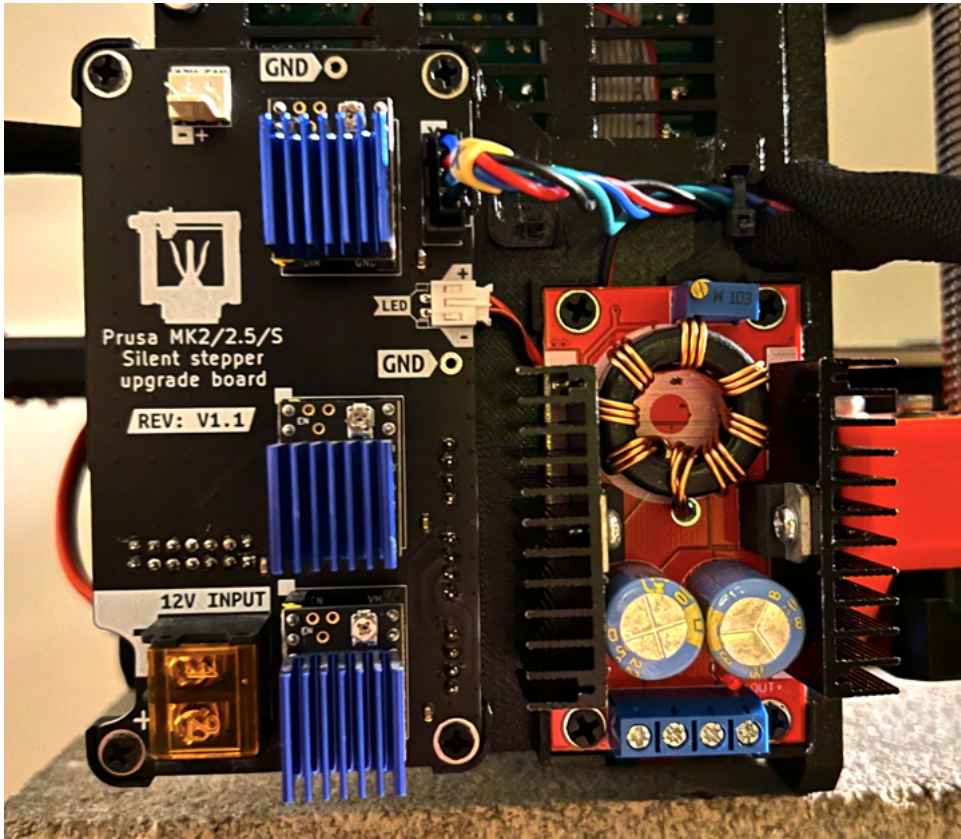

Figure 19: Boost converter mounted.
1. Securely mount the boost module using 4 self-tapping screws, as depicted in Figure 19. Please note that if you have the 24V-capable version of the light, you have the option to route the cable underneath the boost converter (refer to the Figure). However, exercise caution in that case to prevent the cable from being pierced by any of the metal legs on the boost converter.